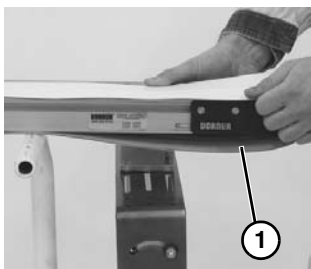

Figure 36
5. Remove belt (**Figure 36, item 1**) from conveyor.